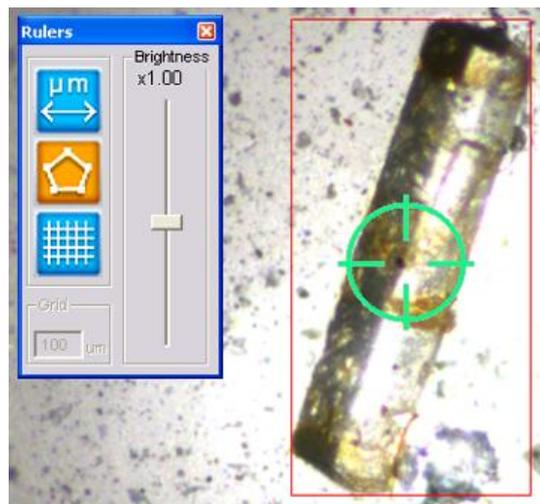

Figure 14 Use of crystal size rectangular box
- **Right mouse button press** primarily controls the optical imaging. A right click results in a menu with following options, as shown in figure 14.